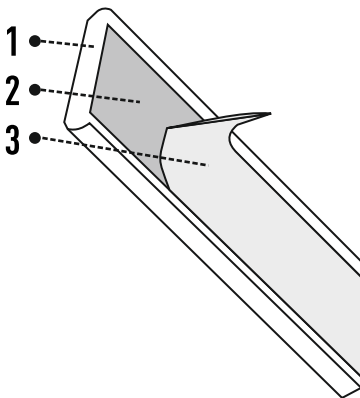

FIGURE 2
2. APPLY FOAM STRIP ON THE FRONT LIP OF THE PICK UP BOX TO ACCOUNT FOR ANY HEIGHT DIFFERENCES BETWEEN THE PICKUP BOX SIDES AND THE FRONT PICKUP BOX PANEL. (SEE FIGURE 2)